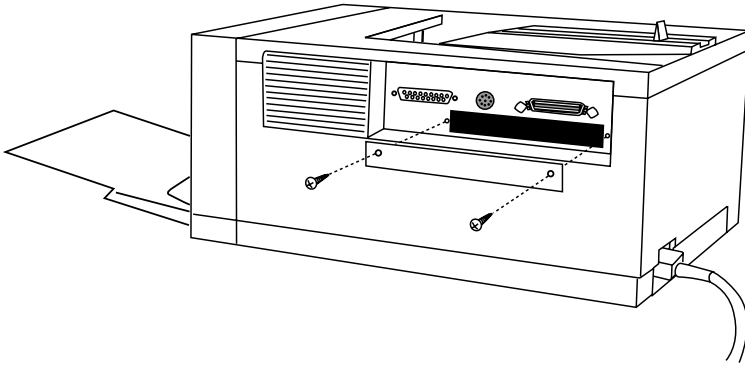

Fig. 4.12 *Remove Screws from Side of Panel*
2. Under the printer's interface ports is a sheet metal access panel (fig. 4.12). Use the Phillips screwdriver to remove the screws from the sides of the panel. Remove the access panel.